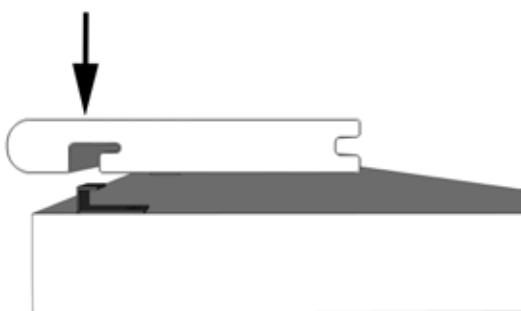

Figure 2-1
- 3 Install tread sideboards as shown in Figures 2-1 and 2-2: